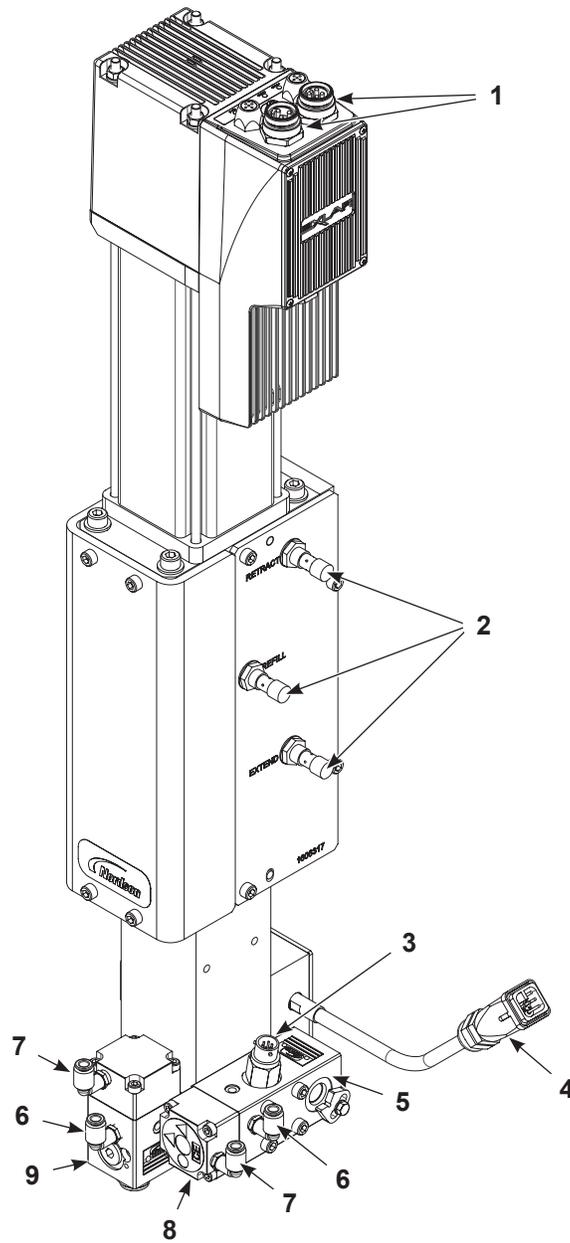

Figure 14 Typical Connections
1. See Figure 14. Connect the cables from the controller or RMB to the connectors (1).
2. **PROXIMITY SENSOR VERSIONS ONLY:** Connect the cables from the controller to the proximity sensors (2).
3. Connect the pressure transducer cable to the pressure transducer (3).
4. **HEATED VERSIONS ONLY:** Connect the cord set (4) to the controller.
1. See Figure 14. Connect at least 60 psi (4.14 bar) of clean shop air to a filter regulator input.
2. Connect the material hose from the Rhino bulk unloader to the material inlet fitting (5).
3. Connect the air lines from the pneumatic control valve to the Gun Open fitting (6) and Gun Close fitting (7) on the outlet valve (9).
4. Connect the air lines from the pneumatic control valve to the Gun Open fitting (6) and Gun Close fitting (7) on the inlet valve (8).